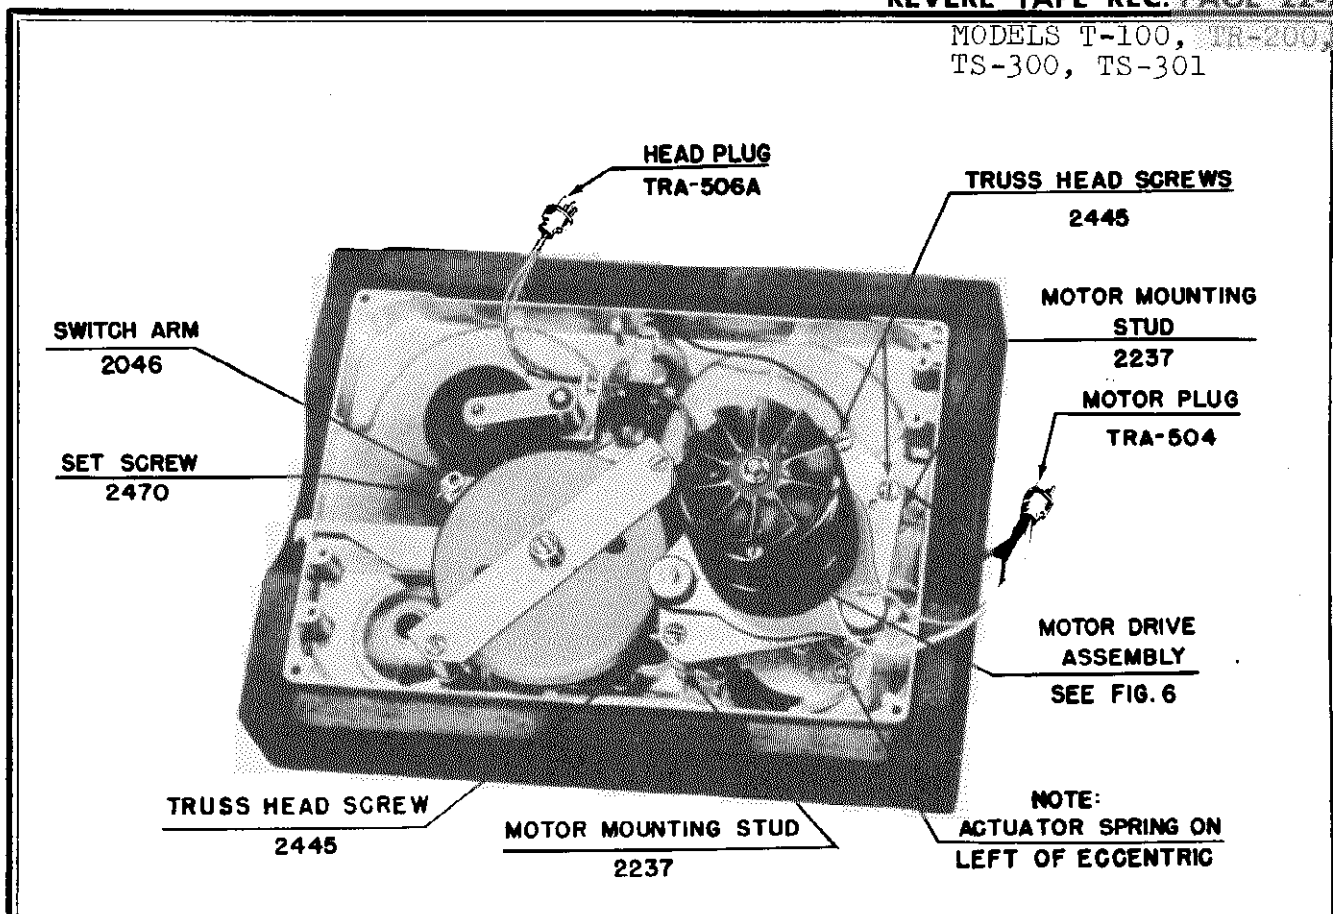
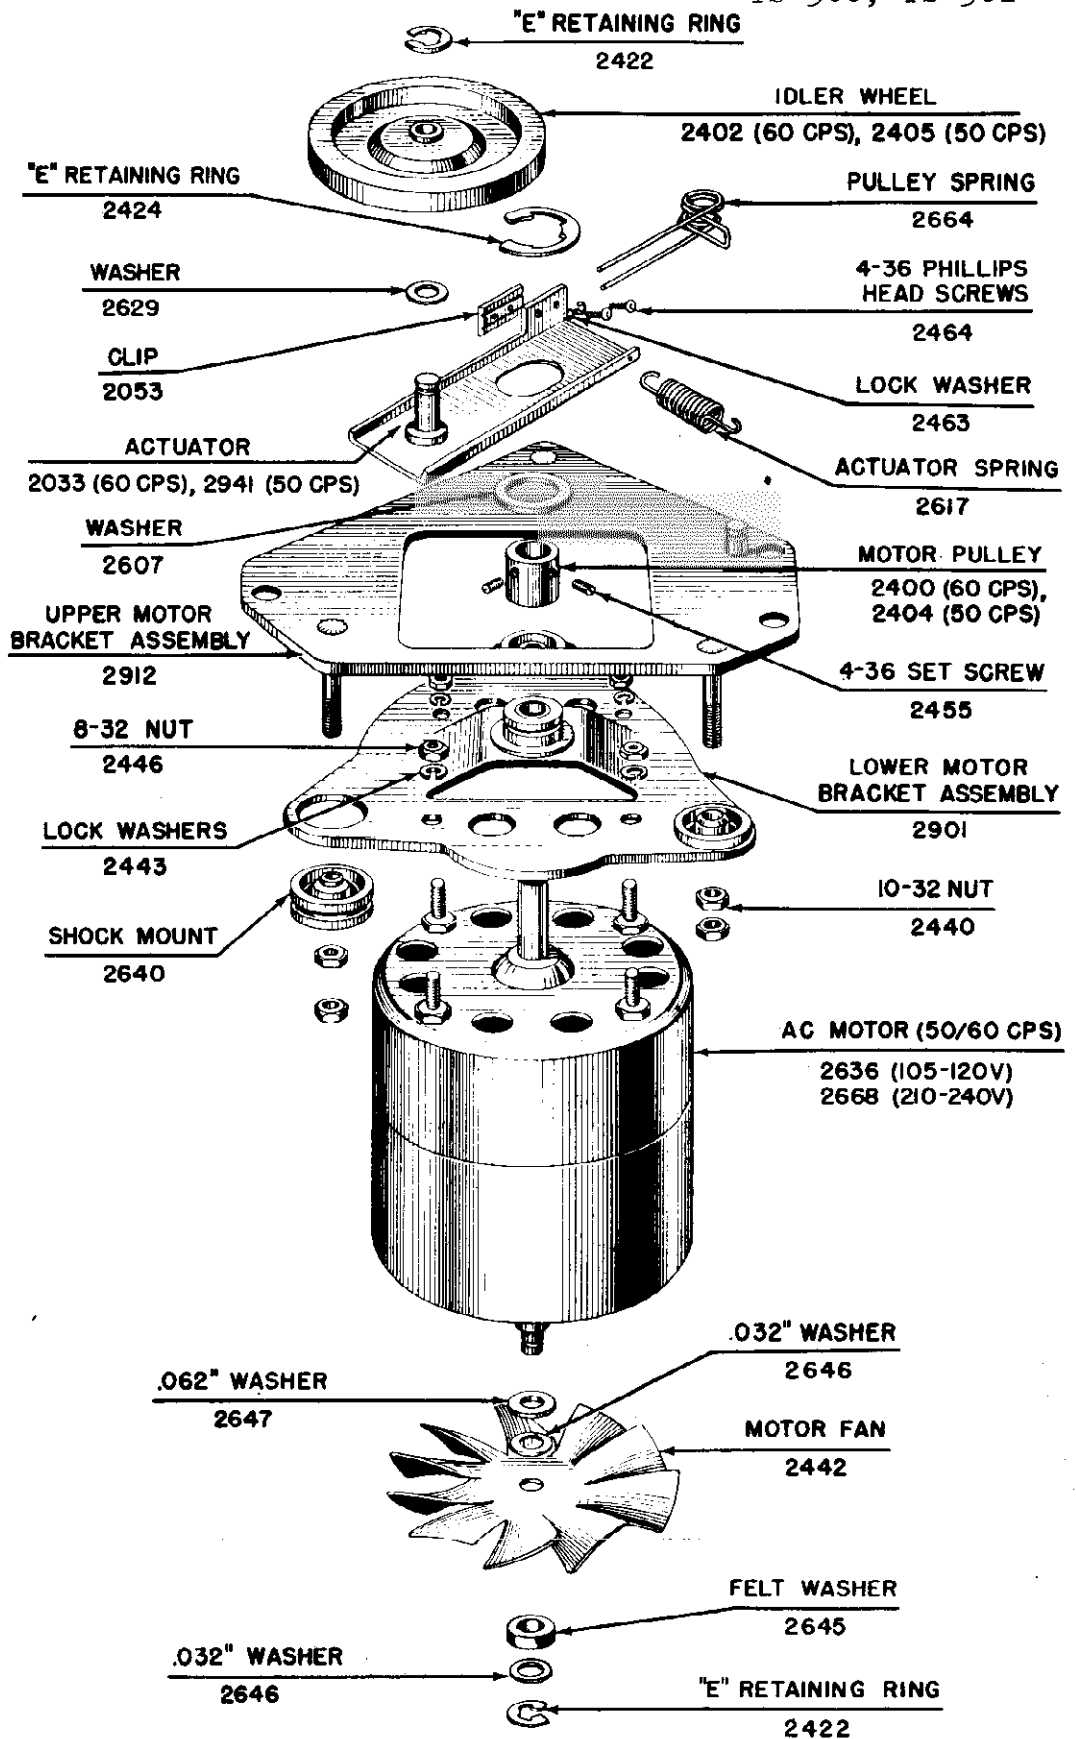

FIG. 4 - Bottom View of Recorder with Case and Amplifier Removed.
FIG. 6 - Exploded View, Motor Drive Assembly.
tration. Disconnect head and motor plugs from amplifier (see Fig. 4). Turn Function switch to REWIND position. Loosen set screw on switch arm (#2046). Return Function switch to STOP position. Remove amplifier from mechanism.
Recorders built for 50 cycle operation have clip (#2053) mounted on right side of actuator (#2033) as viewed in Fig. 6.
(1) Disassembly: (See Fig. 4). Remove truss head screws (#2445). Lift motor free from motor mounting studs (#2237).
(2) Inspection: (See Fig. 6). Check motor shaft for free rotation. Inspect idler wheel for wear. Check actuator (#2033) for free rotation on lower motor
(4) Reassembly: Assemble motor assembly in sequence as shown in exploded view (Fig. 6). Check position of actuator spring (#2617) as noted in Fig. 4.